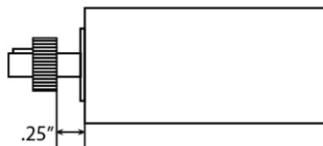

Figure 4 – Hub Location
1. Mount hub (Ref. No. 22) over key on the motor shaft, 1/4" from the motor mounting face as shown in Figure 4. (Part No. on hub to face away from motor.) Use 3/16 sq. key furnished for all models when adapter sleeve (Ref. No. 49) is not used. Use 3/16 x 5/16 key